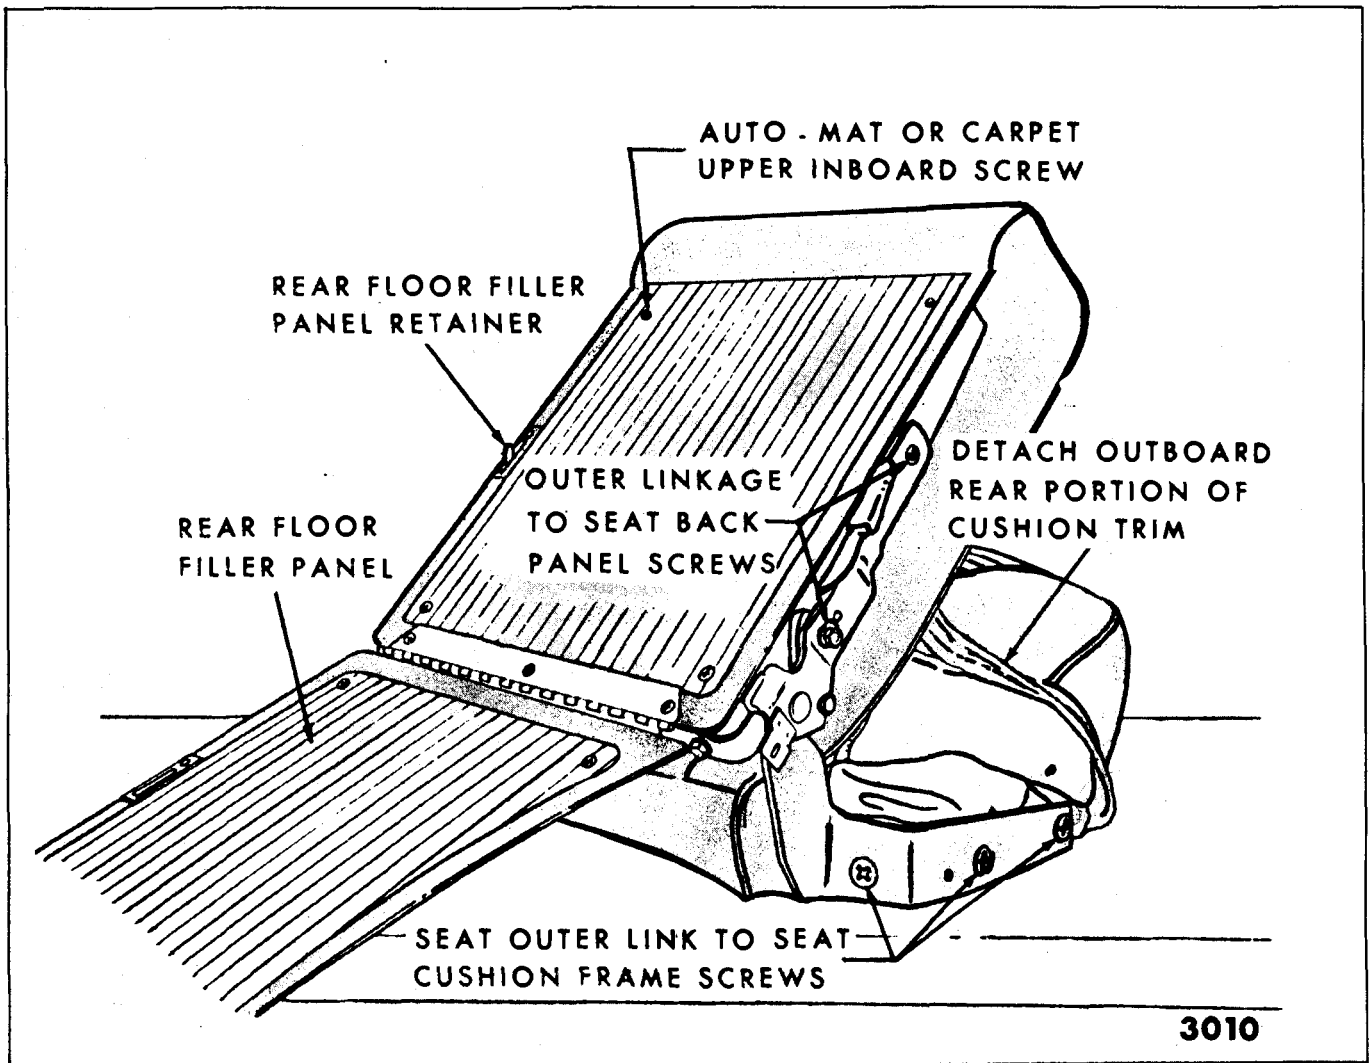

Fig. 14-78-Folding Second Seat Cushion Assembly (Right or Left Side) - Vista Cruiser "66" Style
2. Remove hog rings and detach outboard rear portion of trim sufficiently to remove three screws securing seat outer link to cushion frame (Fig. 14-78).
NOTE: If seat back trim does not readily disengage from seat back panel, fold rear floor filler panel down and remove upper inboard screw securing automat or carpet (Fig. 14-78). Then remove seat back trim assembly.
3. Remove hog rings and detach rear portion of trim sufficiently to remove three screws securing outer linkage to seat cushion frame (see Fig. 14-78).
4. Remove outer linkage-to-seat back panel attaching screws; then, remove linkage and seat back catch from seat (see Fig. 14-78).
2. Remove outer linkage-to-seat back panel attaching screws (see Fig. 14-78).
3. Install lock handle attaching screw; then, install outer linkage to seat back panel attaching screws (Fig. 14-78).